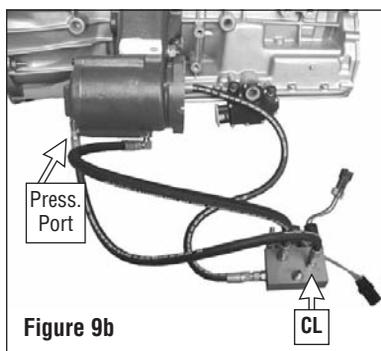

Figure 9b
- 22.** Locate the hose which has a JIC swivel hose end on both ends of the line. Connect one end to the pressure port on the PTO (the one with the straight thread fitting) and connect the other end to the "CL" port on the solenoid block. *Figure 9b*